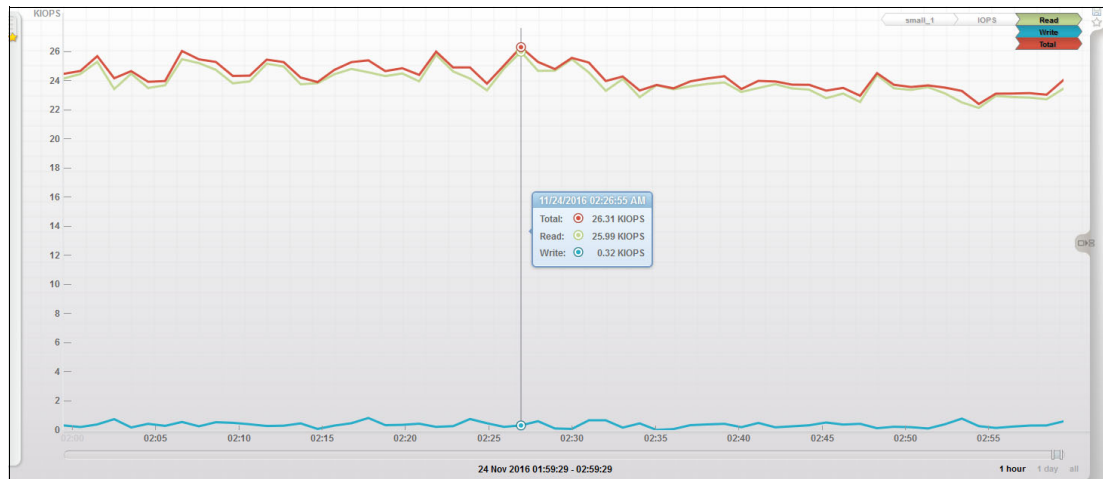

Figure 11-110 Pool performance graph
4. Draw the graph, which is shown in Figure 11-110.